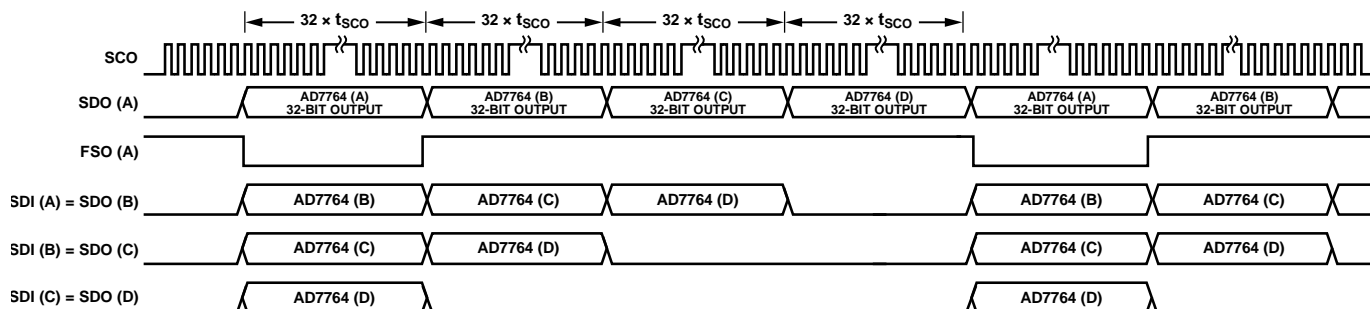

Figure 48. Daisy-Chain Mode, Data Read Timing Diagram (for the Daisy-Chain Configuration Shown in Figure 47)
After a SYNC pulse is applied to all devices, the filter settling time must pass before the FILTER\_SETTLE bit is asserted, indicating valid conversion data at the output of the chain of devices. As shown in Figure 48, the first conversion result is output from the device labeled AD7764 (A).